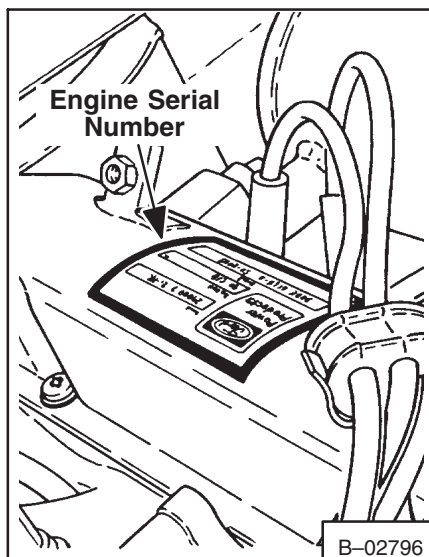

Fig. 1-3 (642) Engine Serial Number
**642 Ford:** (Fig. 1-3) The engine serial number location is on the right side of the valve cover. Use all the numbers when ordering parts for this engine.